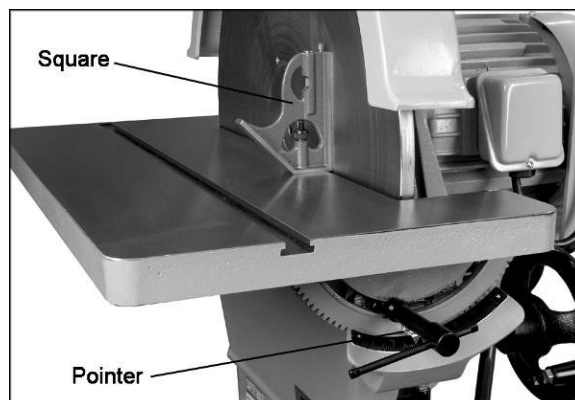

Figure 7
1. Verify the accuracy of the scale pointer by positioning the table in horizontal position, and placing a square on the table and flush against the disc. (It is easier to do this without an abrasive disc attached.) See Figure 7.